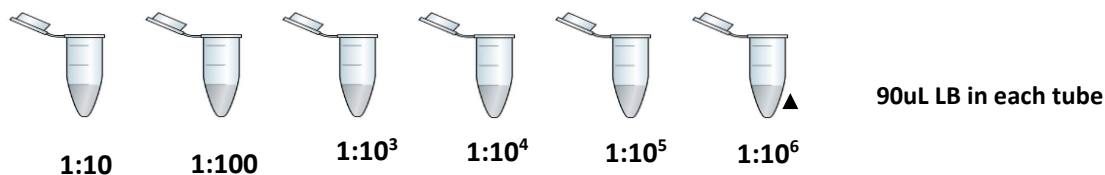

Fig. 1
53. Arrange the microfuge tubes in your microfuge tube rack in the order they are shown in Fig 1.